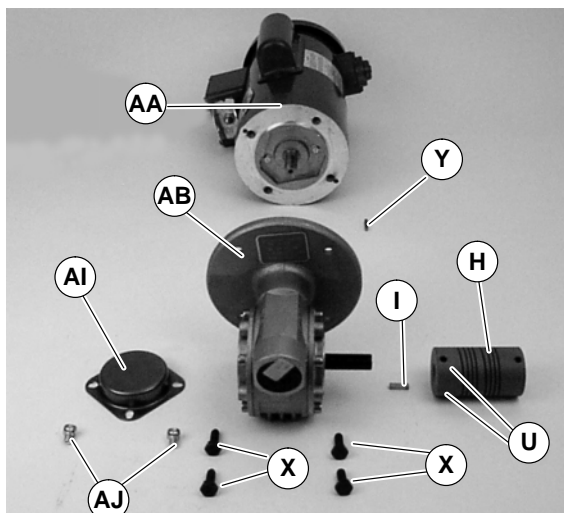

Figure 26
3. Remove four screws (X of Figure 26). Detach motor (AA) from gear reducer (AB). Retain shaft key (Y).
9. With key (Y of Figure 26) in keyway, slide motor (AA) and gear reducer (AB) together. Install screws (X) and tighten.
10. Attach coupling (H of Figure 26) to gear reducer shaft. Tighten two set screws (U) to 4.7 Nm.